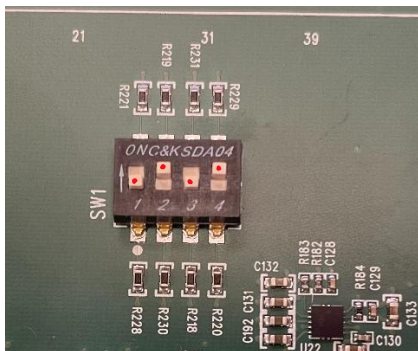

Figure 13: BOOT mode (SW1) set to SD.
- 4.2.2.2. Set BOOT mode to SD (0101) (Figure 13).